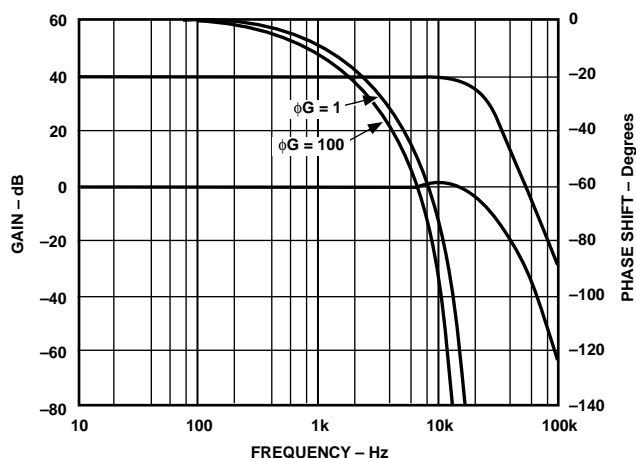

Figure 10. Phase Shift and Gain vs. Frequency
**Phase Shift:** Figure 10 illustrates the AD210's low phase shift and gain versus frequency. The AD210's phase shift and wide bandwidth performance make it well suited for applications like power monitors and controls systems.